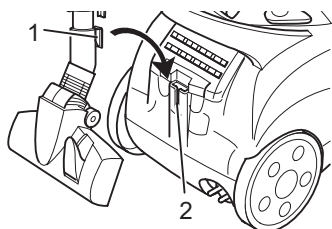

Fig. 16
- When **setting the appliance aside** or during work breaks, you can hang the parking hook (Fig. 16/1) into the parking hook mount (Fig. 16/2).